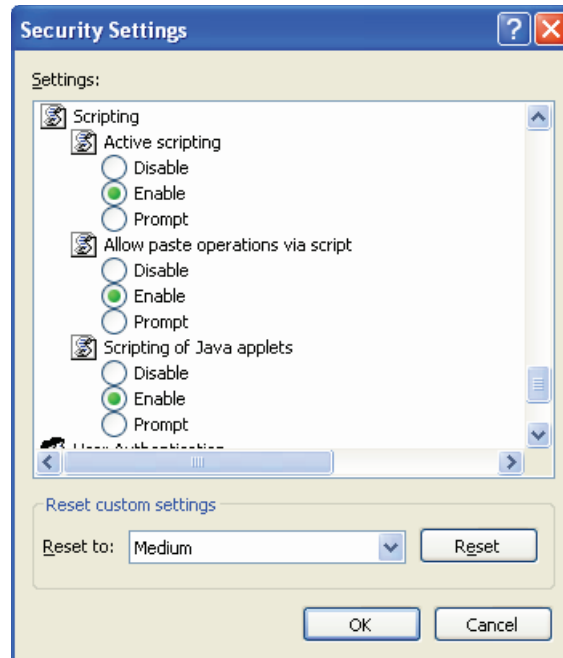

Figure 40. Custom Level Security Options
5. Scroll down to the **Scripting** setting and under **Active scripting**, select **Enable** (see figure 40).